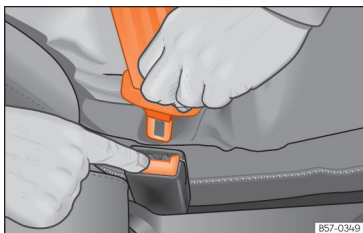

Fig. 21 Release the seat belt's latch plate.
- Press the red button on the buckle » » » Fig. 21. The latch plate is released from the buckle.